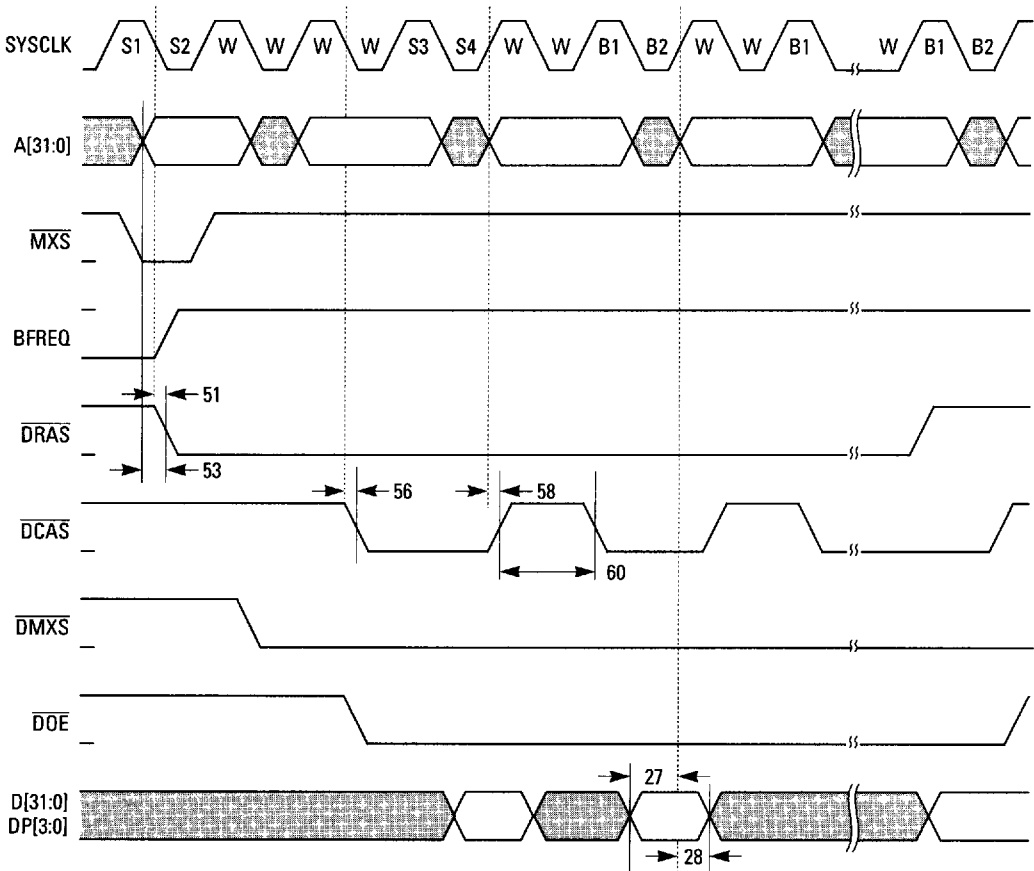

Figure 12
- DRAM Page-Mode Write Timing (Figure 12)